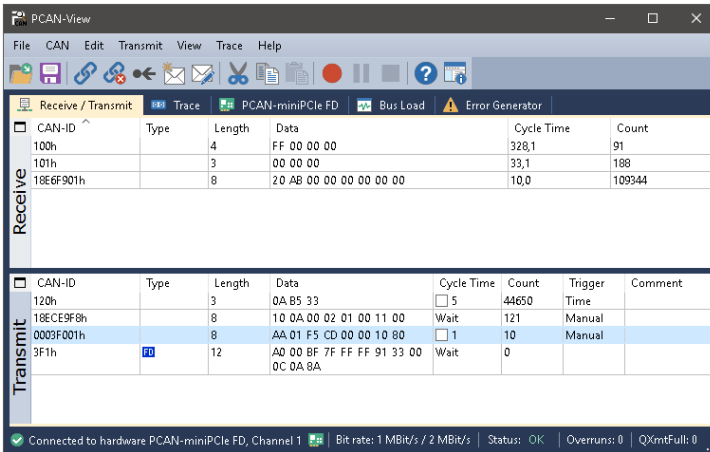

Figure 14: Receive/Transmit tab
9. Confirm the settings in the dialog box with **OK**. The main window of PCAN-View appears (see Figure 14)